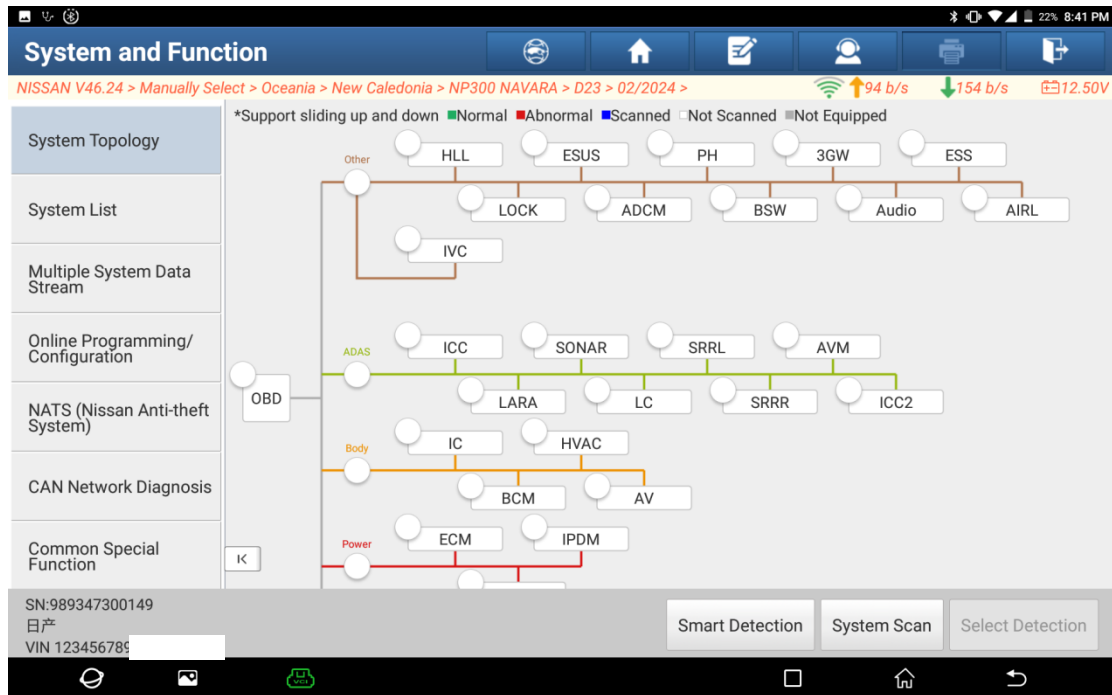

Figure 5
- Click [Manually Select], and then choose [Oceania] > [New Caledonia] > [NP300 NAVARA] > [D23] > [02/2024] to enter the system interface for this vehicle model (Figure 5).